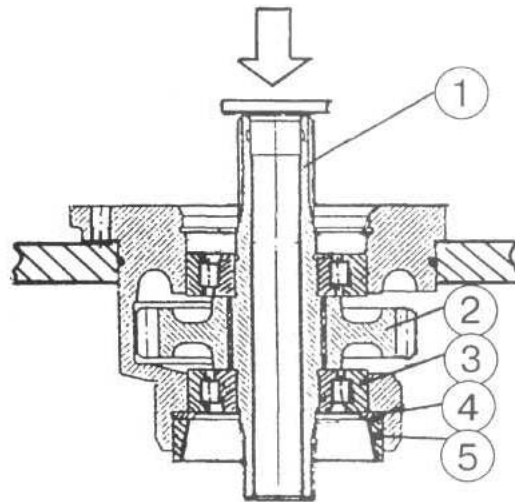

Figure 4.112
- e) put glass on stand and press out shaft 1 (Figure 4.112) with bearing 3, thrust ring 4, shell of bearing 5;